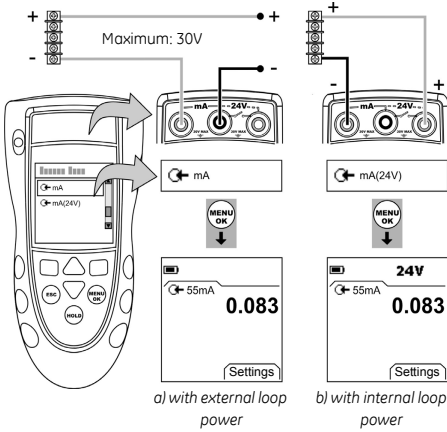

Figure 5: Example configuration - mA measurement
1. Connect the instrument (Figure 5) and, if necessary, adjust the *Set Up* (Table 1).